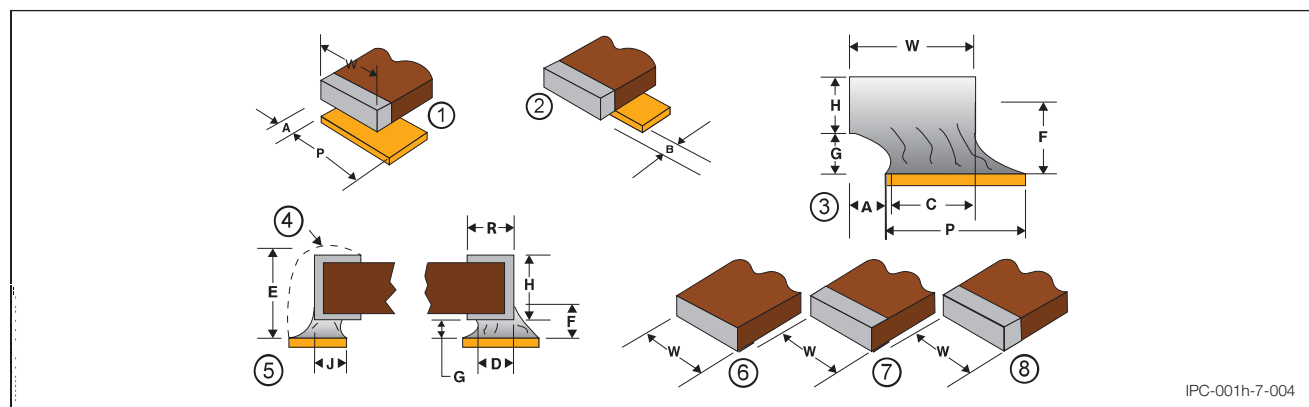

Figure 7-4 Rectangular or Square End Chip Components
7.5.4 Rectangular or Square End Chip Components – 1, 2, 3 or 5 Side Termination(s) These criteria apply to component types such as chip resistor, chip capacitor, square end MELF, and network passive parts (R-NET, etc.) that have this type of termination. Solder connections to components having terminations of a square or rectangular configuration **shall [D1D2D3]** meet the dimensional and solder fillet requirements of Tables 7-4 and 7-4A, see Figures 7-4 and 7-4A. For one side termination, the solderable side is the vertical end face of the component.